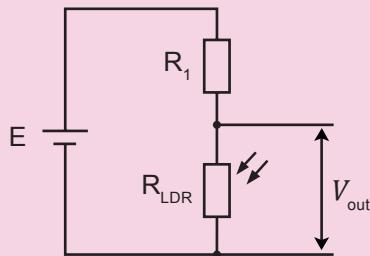

Figure 8.22
2. An LDR is connected as shown in Figure 8.22. Explain what happens to the output voltage when the brightness of the surroundings decreases.